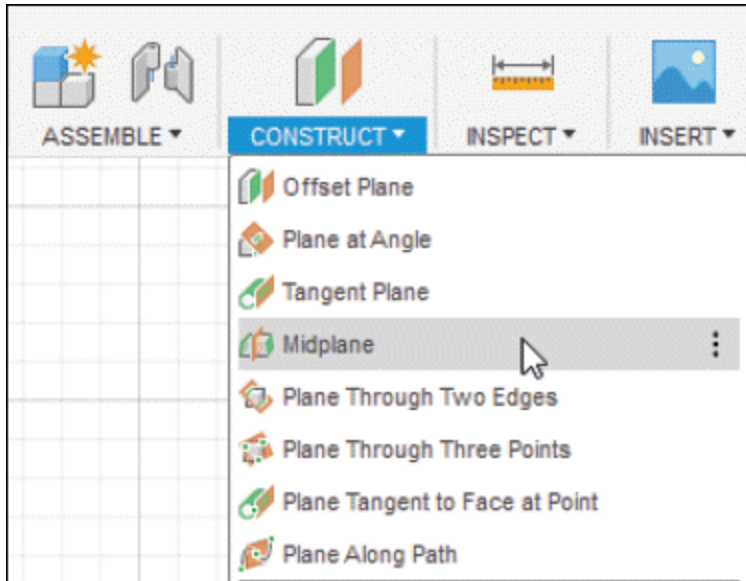
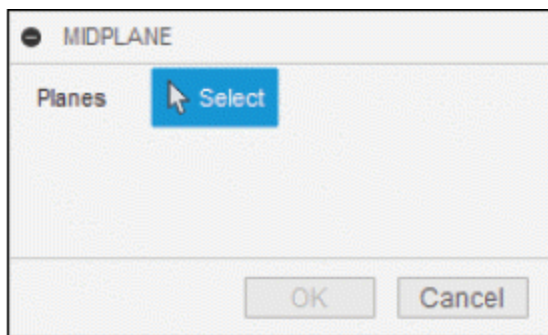

Figure-81. Midplane tool
Figure-82. MIDPLANE dialog box
- Click on the **Midplane** tool of **CONSTRUCT** drop-down from **Toolbar**; refer to Figure-81. The **MIDPLANE** dialog box will be displayed; refer to Figure-82.